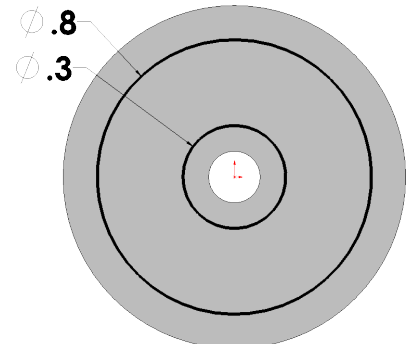

Fig. 6
Step 3. Click **Circle**  (S) on the Sketch toolbar.
Step 4. Sketch **two circles** starting at the Origin , **Fig. 6**.
Step 5. Click **Smart Dimension**  (S) on the Sketch toolbar.
Step 6. Dimension the circles, **Fig. 6**.